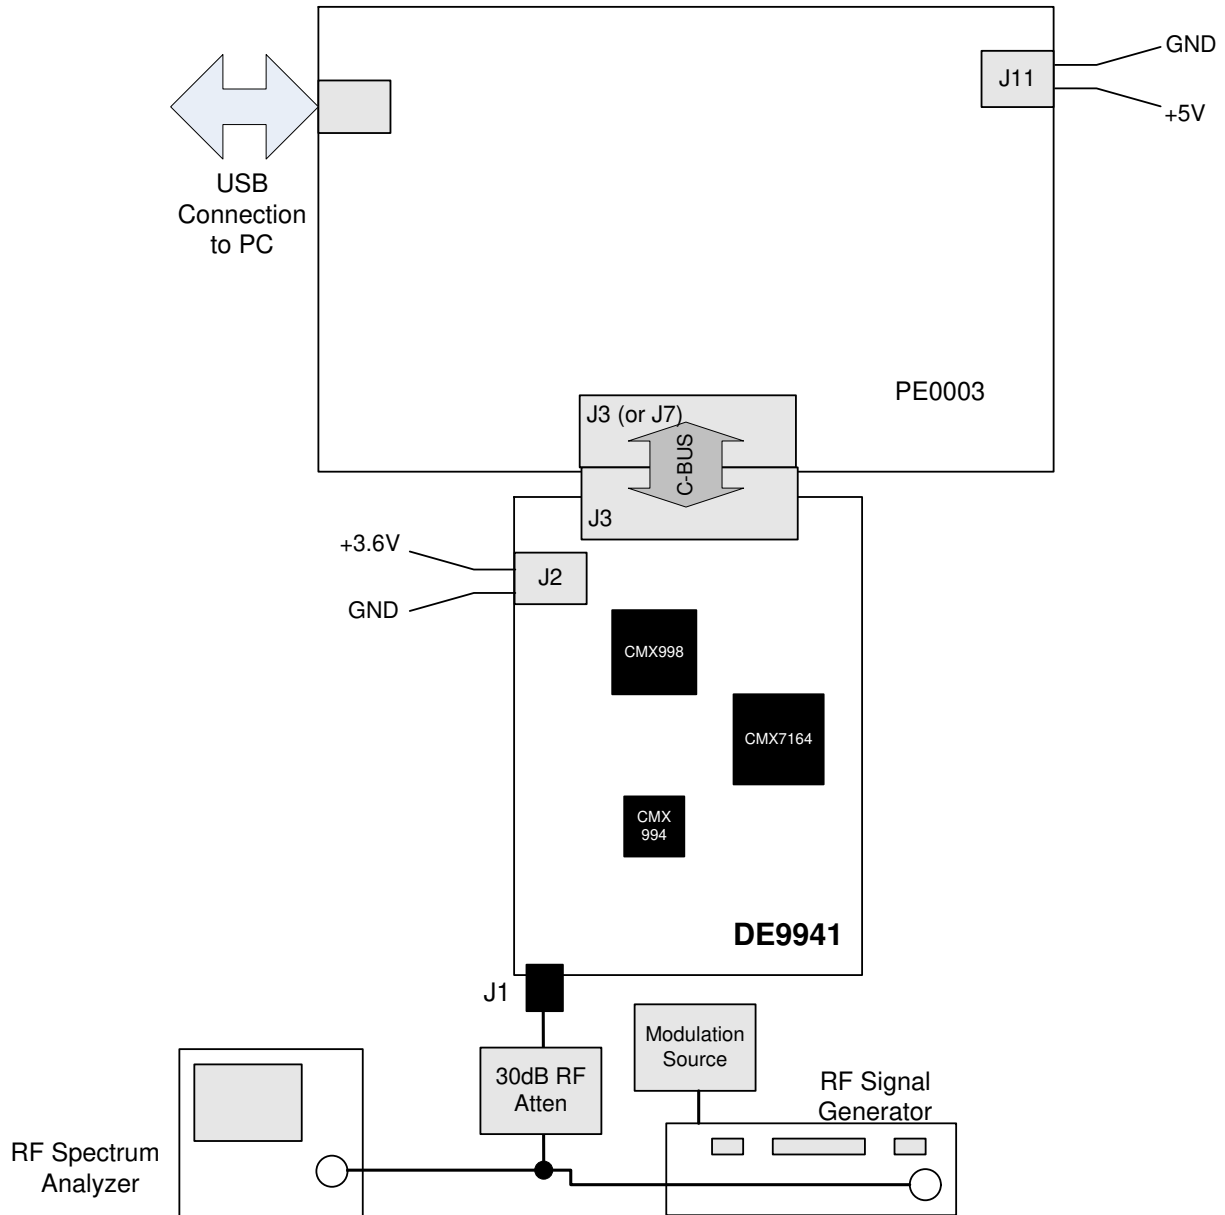

Figure 2 Typical Evaluation Connections for DE9941
1. Connect the boards as shown in Figure 2. J1 should be connected to either an RF signal generator or Spectrum analyser via a suitable 50Ω attenuator. If testing the transmitter, the RF output J1 should be connected to a suitable 50Ω load.